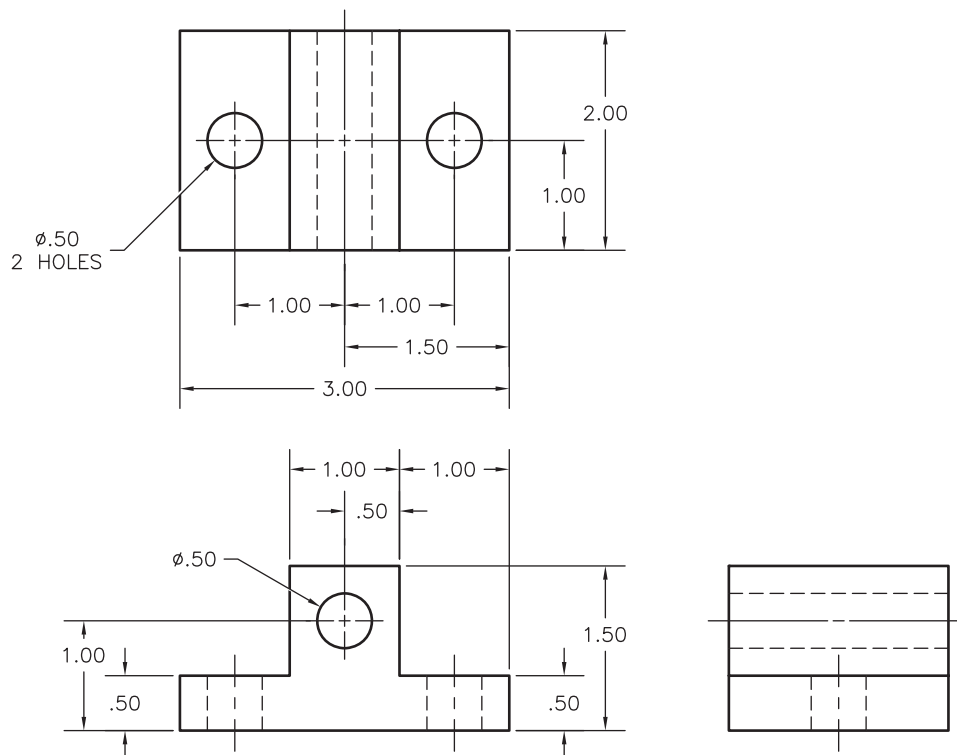
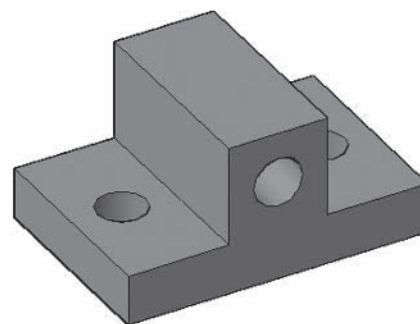

Fig. 44-12
Fig. 44-13
5. Your customer wants to see a 3D view of the base plate shown in Fig. 44-12. Create the base, extrude it, and then use Boolean operations to create the 3D model. View the base plate in the **Conceptual** visual style, as shown in Fig. 44-13. Save the drawing as **ch44baseplate.dwg**.
Figure 44-12 prepared by Gary J. Hordemann, Gonzaga University